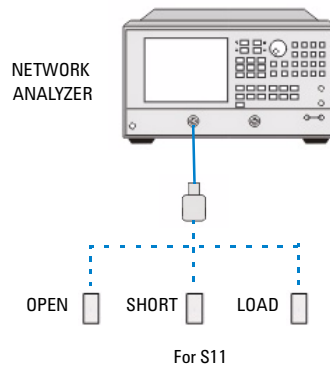

Figure 3-1 SWR test setup
- 5 Perform calibration using open, short, and load as shown in Figure 3-1 on page 15.